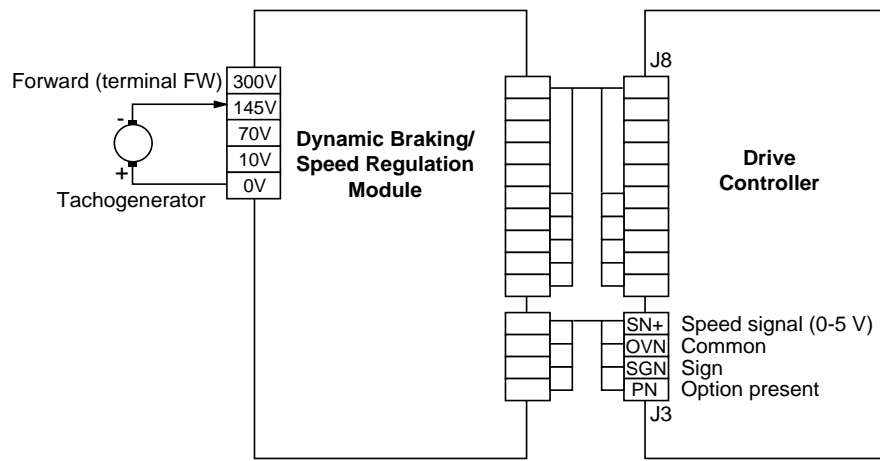

Figure 5-11 Connecting the Tachogenerator to 1 to 40 hp Controllers
11. If speed regulation is used, remove the drive controller J3 cover and install the short cable supplied with the dynamic braking module between the module and connector J3 of the drive controller. Refer to Figure 5-11 on page 91.
Figure 5-11 shows how to connect the tachogenerator to the dynamic braking module.